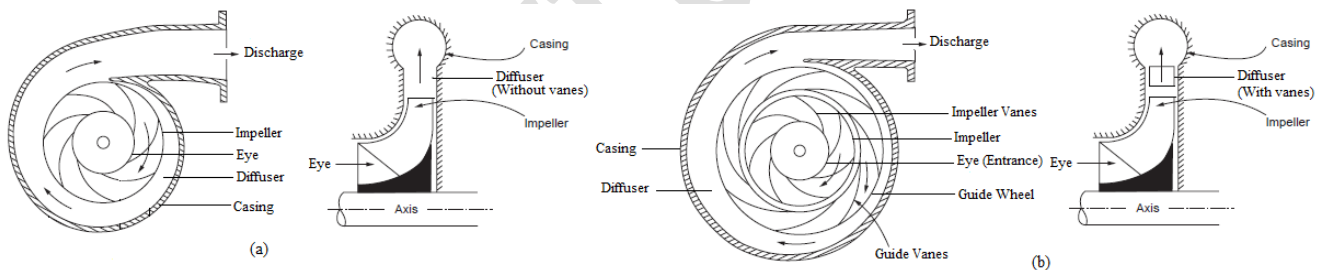

Fig. 5.7 Types of diffusers
**5.9.1 Vaneless Diffuser:** In this type, the diffusion process will take place in the vaneless space around the impeller before the air leaves the compressor stage through volute casing. A vaneless diffuser is shown in figure 5.7 (a). A vaneless diffuser has wide range of mass flow rate. But for a large reduction in the outlet kinetic energy, diffuser with a large radius is required. Because of long flow path with this type of diffuser, friction effects are important and the efficiency is low.
**5.9.2 Vanned Diffuser:** In the vanned diffuser as shown in figure 5.7 (b), the vanes are used to diffuse the outlet kinetic energy at a much higher rate, in a shorter length and with a higher efficiency than the vaneless diffuser. A ring of diffuser vanes surrounds the impeller at the outlet, and after leaving the impeller, the air enters the diffuser vanes